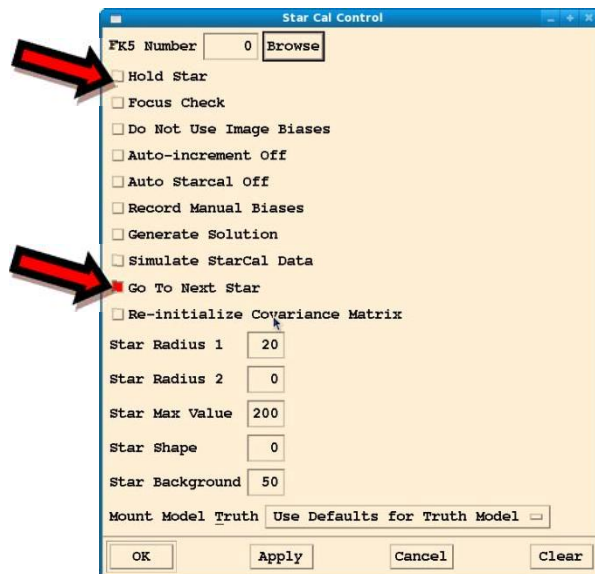

Figure 5-9: Section of the Star Cal control window
4. **Open FK5 Lists** – Go to the Star Cal control window and click on the **Browse** button (Figure 5-9) – This will open a list of stars that are currently visible along with a graphical representation of their location (Figures 5-7 and 5-8). The radial lines on the plot represent the azimuth location of the star, and the circular lines represent the elevation of the star.
6. **Slew to the selected star** – Go to the Star Cal control window, de-select Hold Star, select Go to Next Star and click Apply (Figure 5-9).